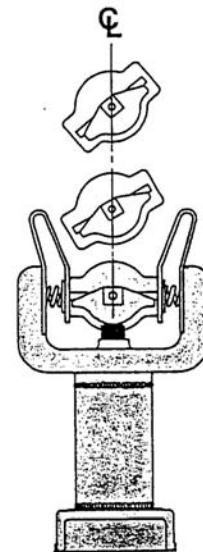

Figure 8
9. Hand operate each pole to check for proper contact engagement. The blade should enter the jaw centrally as shown in figure 8 without dragging on either side. Additionally, it must come to rest with the silver of the blade centered in the silver of the contact leaves as shown in figure 7. Adjust the jaw screws at the base of the jaw insulator to achieve proper contact alignment.